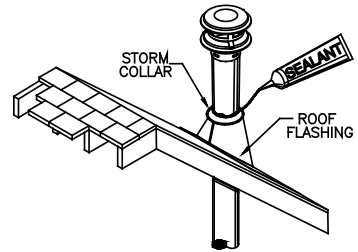

Figure 9
I. To finish, apply non-hardening waterproof sealant where the Storm Collar will meet the vent and Flashing; slide Storm Collar down until it rests upon the Roof Flashing (**Figure 9**). Holding the base of Cap, firmly twist lock your Vertical Termination Cap onto supported Pipe